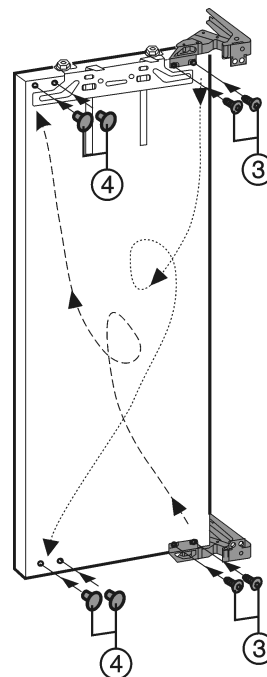

Fig. 6
- ▶ Unscrew *Fig. 6 (3)* the hinges from the door, transfer them and **screw them on tightly (4 Nm)**.
- ▶ Close vacated fastening holes with stoppers *Fig. 6 (4)*.